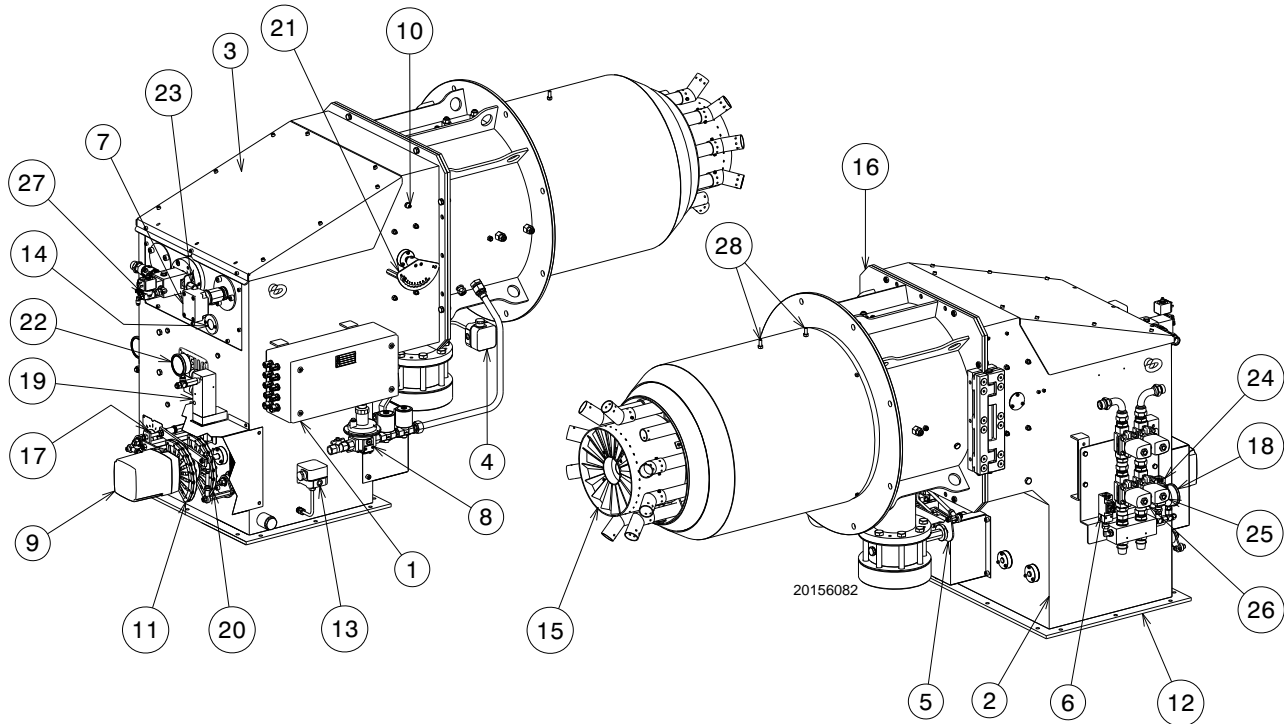

Fig. 8
- (1) Reference conditions: Ambient temperature 20°C - Gas temperature 15°C - Barometric pressure 1013 mbar - Altitude 0 m a.s.l.
(2) Pressure at the socket (Fig. 8) with zero pressure in the combustion chamber and at maximum burner output.